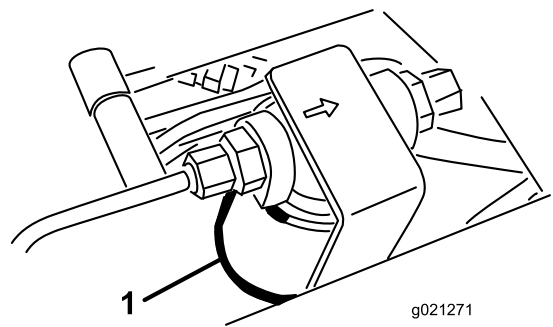
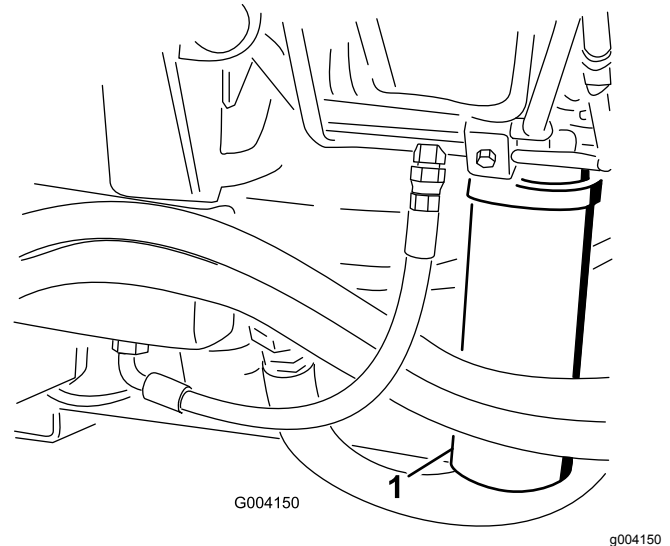

Figure 101
Figure 102
2. Clean the area around the filter-mounting area and place a drain pan under the filter (Figure 101) and (Figure 102).